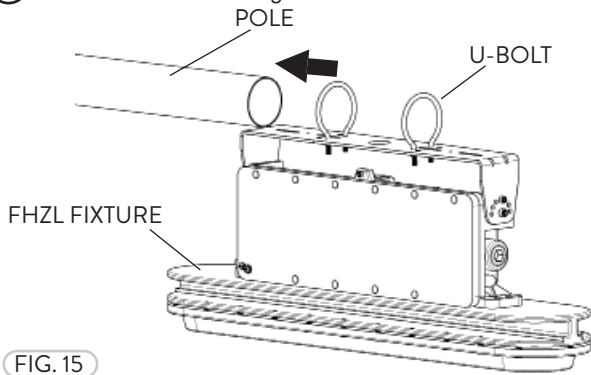

FIG. 15
- 2 Slide the FHZL fixture with the U-Bolts and Nuts partially fastened onto the Round Pole (Fig. 15).